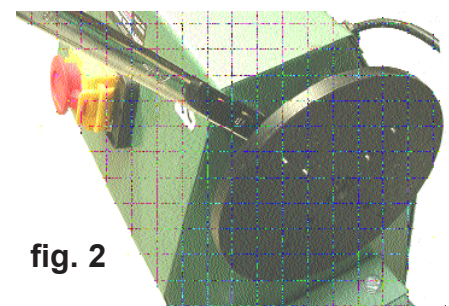

fig. 2
- 3.1.1. Unscrew the face plate (anticlockwise) while holding the headstock spindle using the spanner provided (Fig. 2).